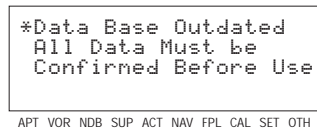

Figure 4-55
1. Press the **MSG** button. The MSG page will appear and show the new message (figure 4-55).